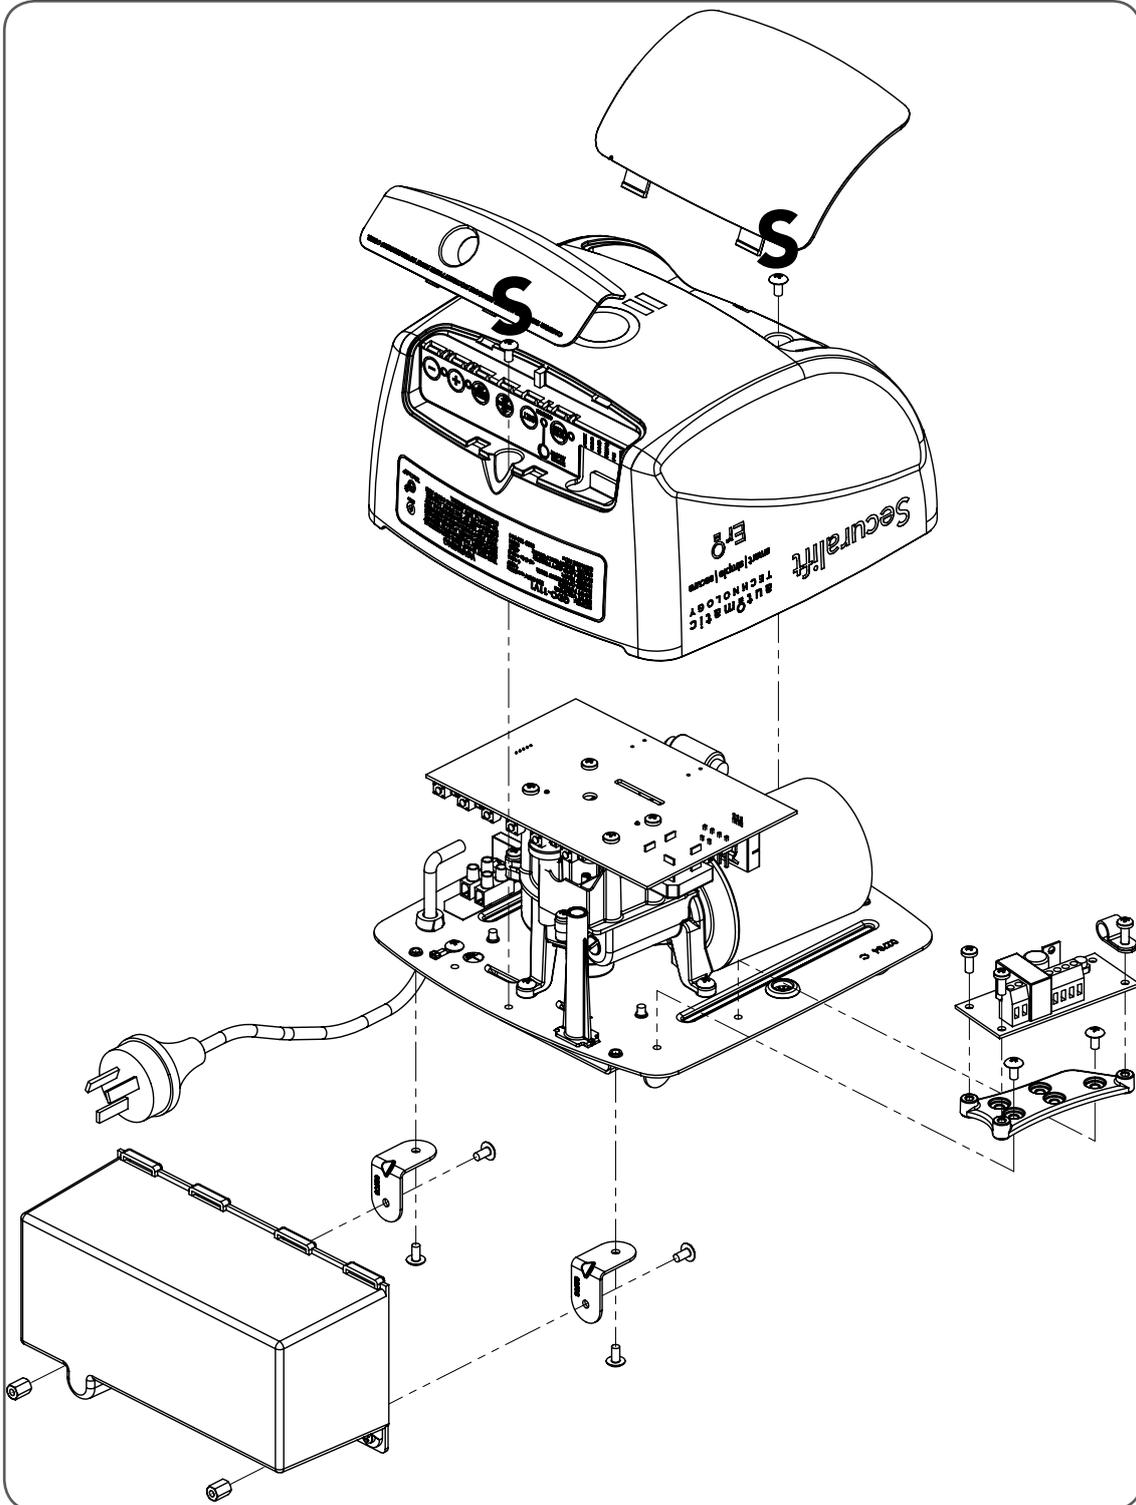

fig 07
- Swing open the light diffuser and controls cover. Remove screws marked "S" (Fig 07) and lift up the main cover.
- Mount the brackets RA (15) to battery pack with 13.
- Secure the battery pack to the GDO-11 with 2 screws (12).
- Feed the SBY-3 battery harness (3) through the grommet on the metal chassis and connect to SBY-3 as per diagram.
- Mount the PCB support (16) with two screws (12). Secure the SBY-3 charger board on to PCB support with 3 screws (14).